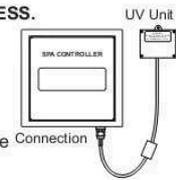

FIGURE 2
1. Turn the breaker to the spa OFF. DRAIN YOUR SPA. Disconnect the **CLEARRAY** System from the controller, Figure 2.